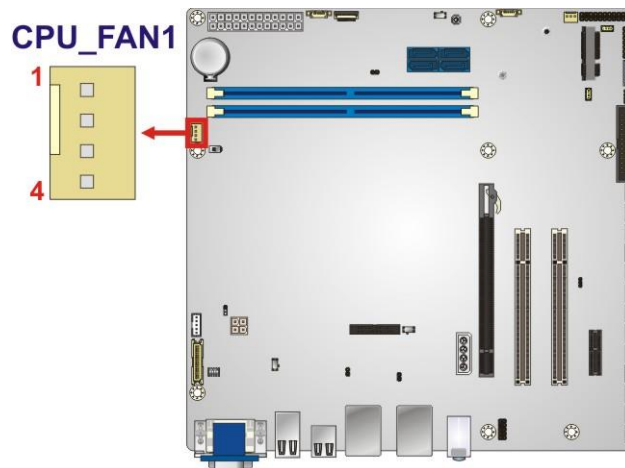

Figure 3-12: CPU Fan Connector Location
CN Location:	See Figure 3-12
- CN Location:See Figure 3-12